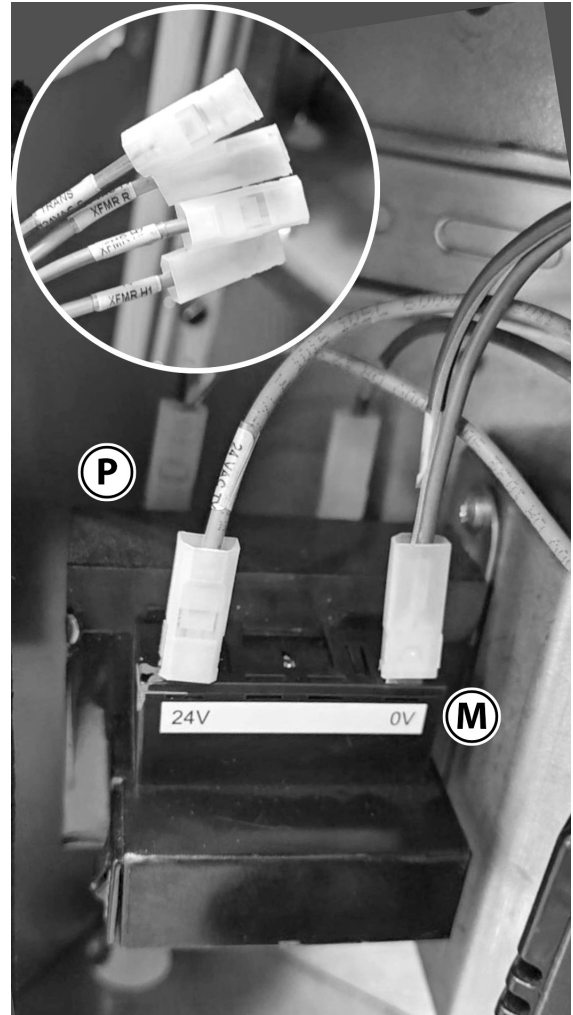

Fig. 14 — TruVu Transformer Connections (High Voltage and Low Voltage)
6. Connect the low-voltage (LV) and high-voltage (HV) wires from the main harness to the TruVu Transformer. (See Fig. 14.)